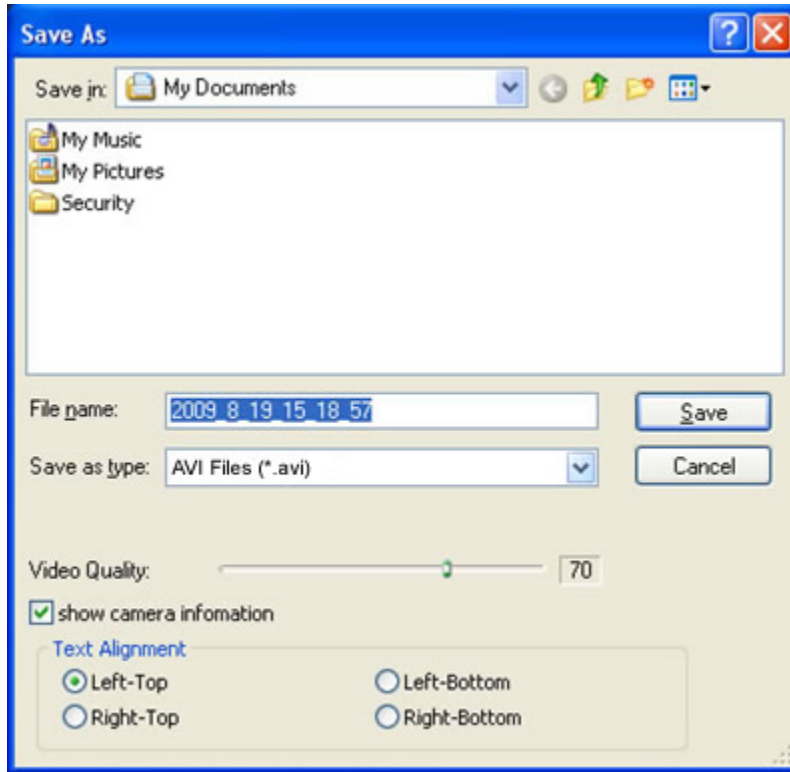

Figure 152. AAR - Save File
6. The SAVE AS window (Figure 152) appears to specify where to export the clip.